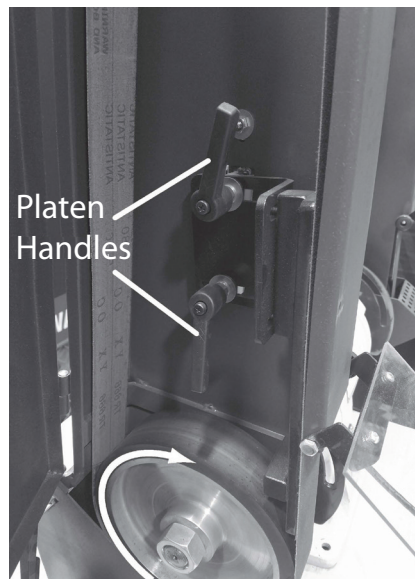

Figure 7. Inside belt guard
3. Remove belt carefully. You may need to loosen the two platen handles, shown in Figure 7.
4. Replace the belt so it will run in the correct direction (downward, as seen from the front of the machine). The wheel rotates clockwise in operation as shown in Figure 7.